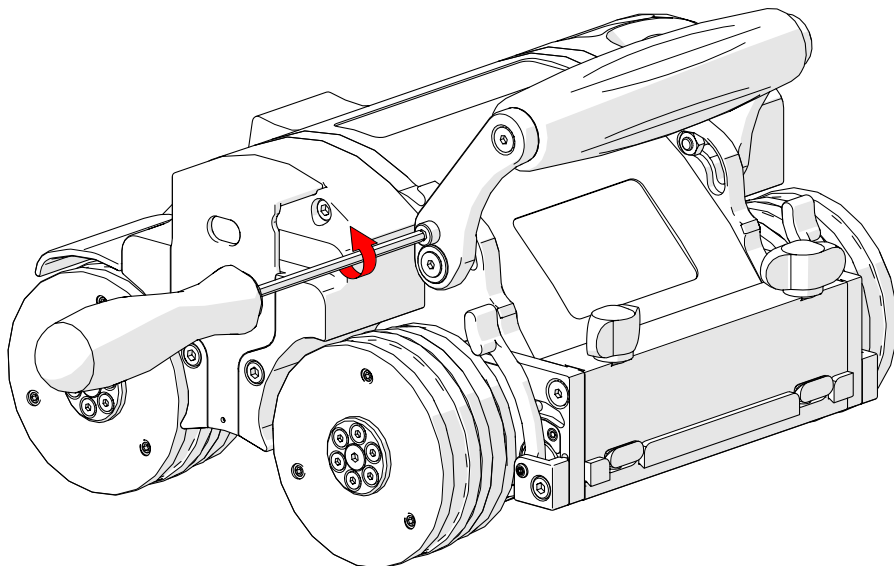

Fig. 95 - Unscrew handle lock screw
1. To lower the handle, use the supplied 3 mm driver to loosen the handle lock screws on either side of the handle (*Fig. 95*).